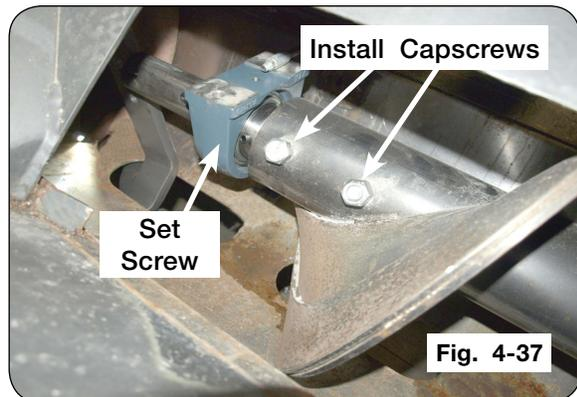

Fig. 4-37
NOTE: Make sure the set screws on bearing are towards the front of the cart. (Fig. 4-37)
21. Slide bearing onto 5-pin driver. Hand tighten set screw. (Fig. 4-37)
23. Install front capscrews, spacer bushings and locknuts 180 degrees from each other and assemble spacer bushings on threaded side of capscrews. Hand tighten hardware. (Fig. 4-37)